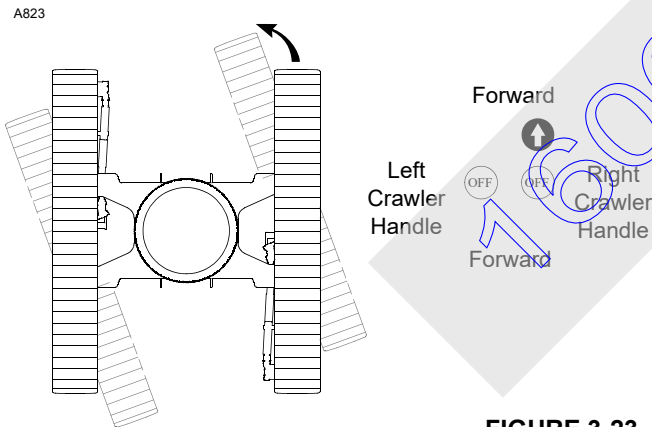

FIGURE 3-23
- Avoid sharp turns (Figure 3-23) if possible.
- To make a SHARP LEFT TURN (Figure 3-23), move right crawler handle to front from off and leave left crawler handle in off; crane will pivot about left crawler.